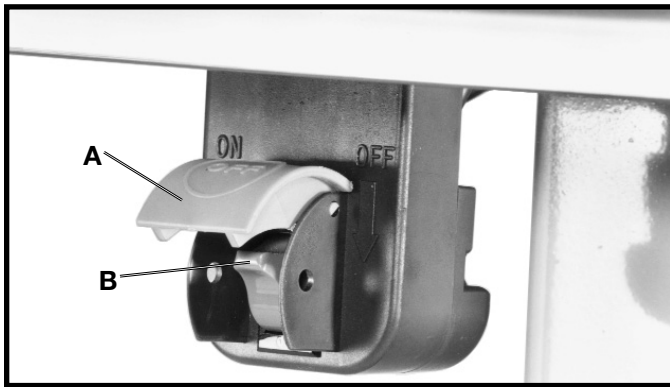

Fig. 41
1. The on/off switch is located underneath the switch shield (A) Fig. 41. To turn the saw “ON”, move switch trigger (B) to the up position.